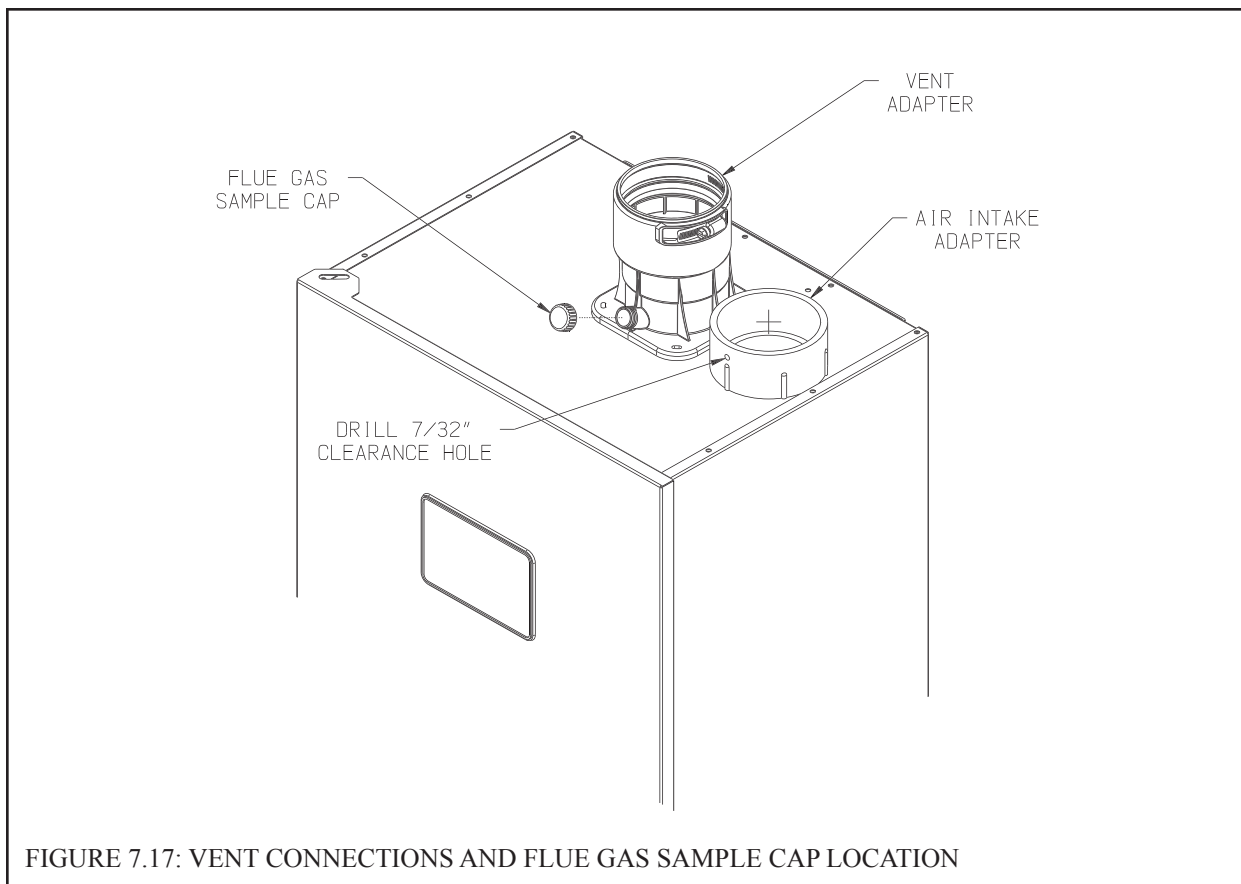

FIGURE 7.17: VENT CONNECTIONS AND FLUE GAS SAMPLE CAP LOCATION
- **Never leave the boiler in operation without the gas sample cap in place (Figure 7.17)**